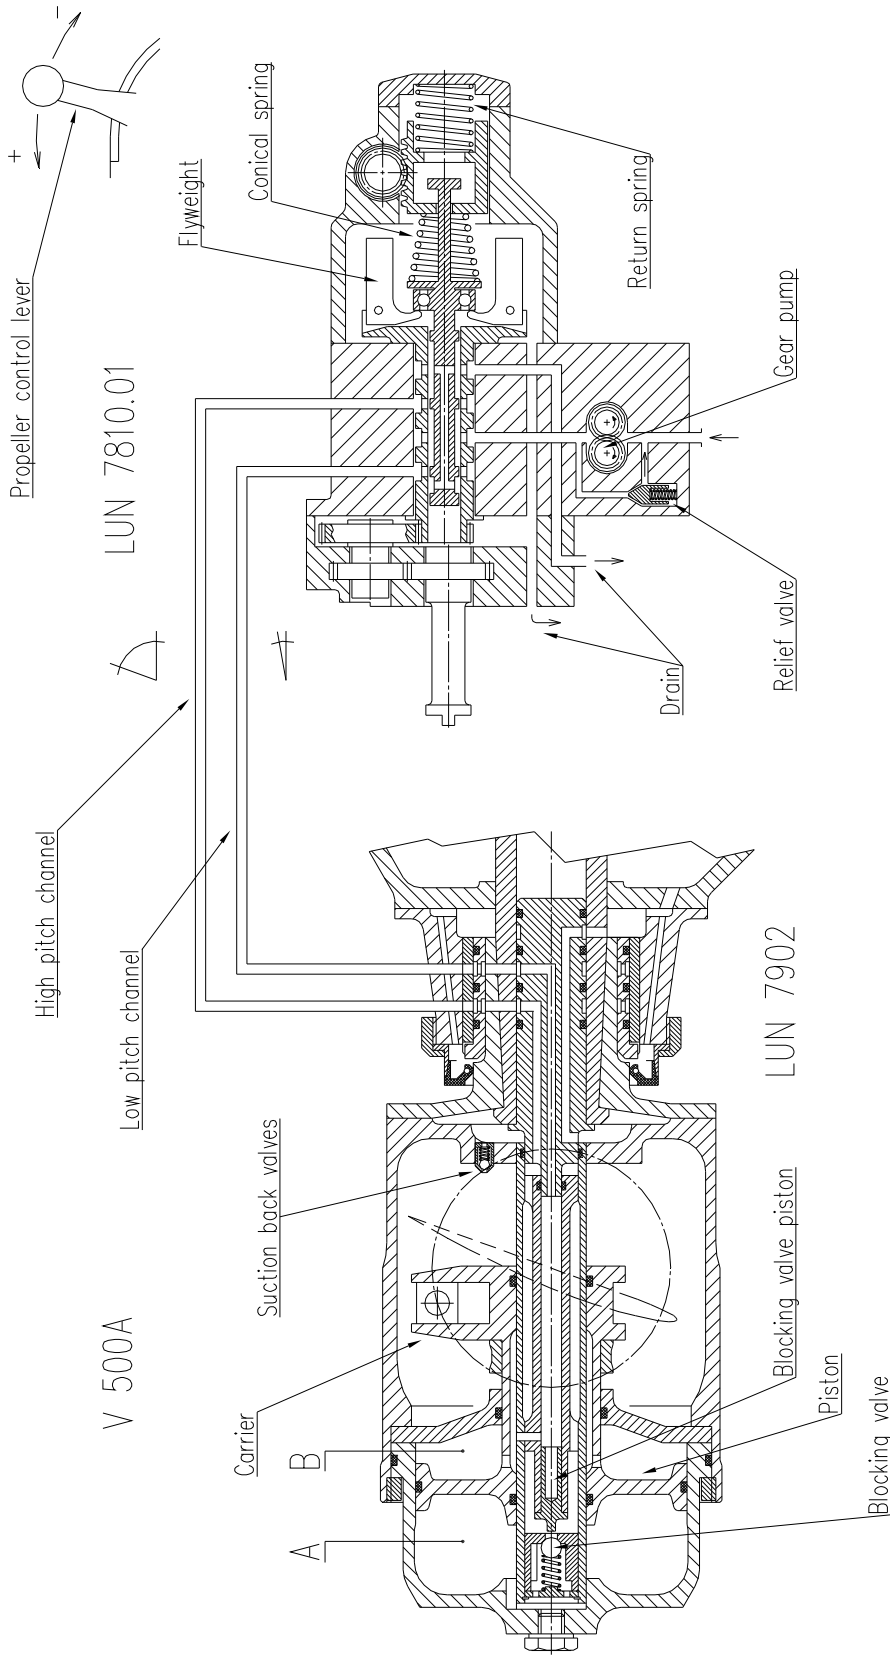

Fig.108 Propeller system V500A functional chart
(see figure 108)
a) Onspeed (see figures 108, 109A)
b) Overspeed (see figures 108, 109B)
c) Underspeed (see figures 108, 109C)